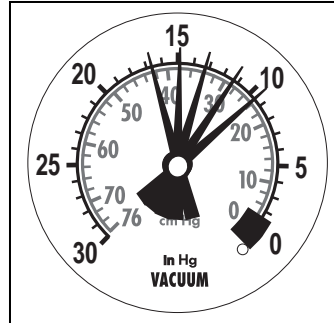

Figure 9
4. Leaking head gasket, worn valve guides or weak/broken valve springs (Figure 9)